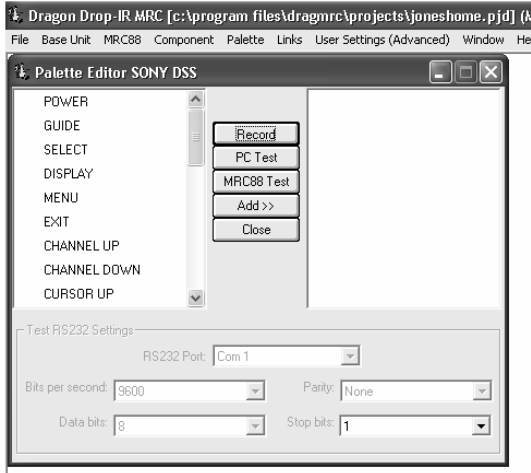

Figure 21
4. The Palette Editor will now be open to the "Brand" & "Component" selected. A list of FUNCTIONS for that type of component will appear as shown in **Figure 21**. Review the list of Functions on the left hand side and compare to the source remote. If your function is not displayed or not named appropriately see the section entitled 'Editing Function Names in the Palette Editor'.